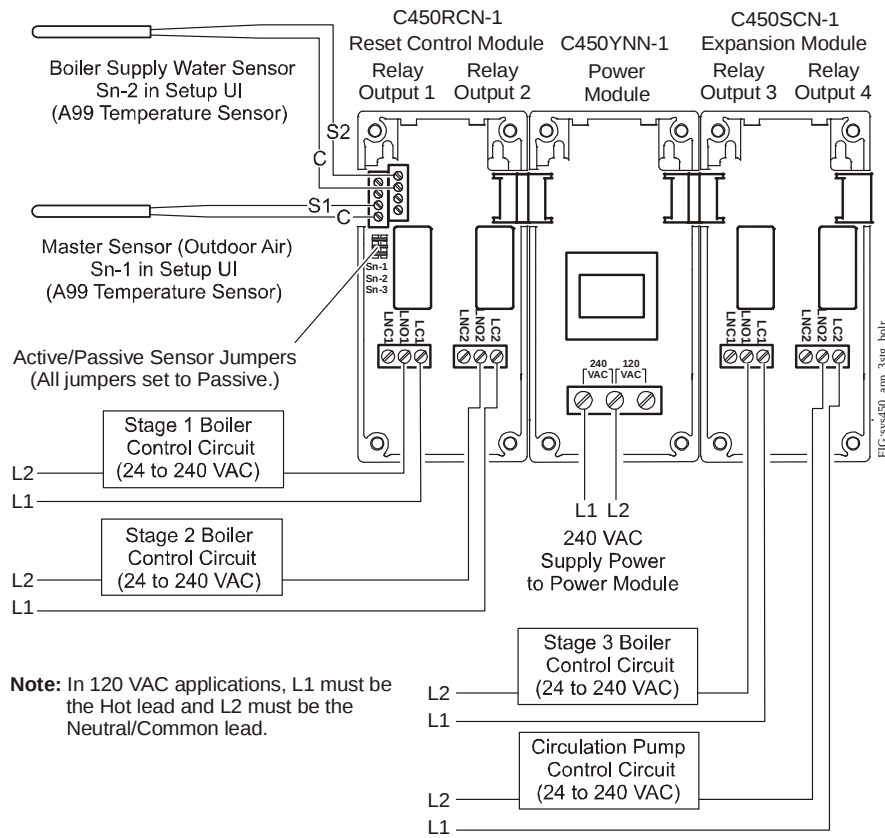

Figure 3: System 450 Reset Control System Example for a Three-Stage Boiler with or without Load Balancing (See Figure 9.)
- Mount the modules upright and plugged together in a horizontal row where possible (Figure 3). DIN rail mounting is highly recommended.
3. Clip the remaining power and/or expansion modules to the right of the control module on to the DIN rail and plug the 6-pin module connectors together (Figure 3).
Sn-1, Sn-2, Sn-3	Accepts passive or active (0-5 VDC) input signals from sensors. Note: In System 450 reset control systems, Sn-1 is the Master sensor (typically an outdoor air temperature sensor) and Sn-2 is the controlled loop sensor (a temperature or humidity sensor). Note: You must position the Active/Passive Sensor Jumper (Figure 3 and Figure 5) correctly for each sensor in your control system before operating the system. See Setting Active/Passive Sensor Jumpers for more information.
A System 450 reset control system consists of one reset control module, one to three input sensors, and one to ten outputs that provide any combination of (On/Off) relay control or (0–10 VDC or 4–20 mA) analog control. Figure 3 shows a reset control system for two boilers, a boiler water circulation pump, and an outside air damper.
Before putting your System 450 reset control system into operation, you must set up each sensor in your system as either passive or active by positioning the jumper on the terminal pins on the terminal block located below the sensor terminal block. See Figure 3.
Figure 5 shows the jumper positions for the System 450 Reset Control example shown in Figure 3.
Reset Setpoint Setup Start Screen: You can set up a floating Reset Setpoint Sensor Type (rES) that can be referenced by the outputs in your System 450 reset control system. You can also select high and low temperature shutdown values (SdHI and SdLO) and an unoccupied Setback (SbK) for all Outputs with reset; and enable Load Balancing for relay (only) outputs with reset. See the Reset Setpoint Setup Screens row in the setup screens flow chart in Figure 9 on page 24. Note: Sn-1 and Sn-2 must be set up in the UI before the Reset Setpoint Setup Start screen is available. All Setup Start screens are view-only; selections cannot be made in Setup Start screens. 1. Press the Next button to go to the next screen and begin setting up the Reset Setpoint. Screen example shows Reset Setpoint Setup Start screen. The remaining screens in this table show the setup parameter values selected for the RSP, high and low temperature shutdown, unoccupied setback, and load balancing that are used by the outputs setup to reference the rES sensor (Output 2 and Output 4) in the control system example in Figure 3.